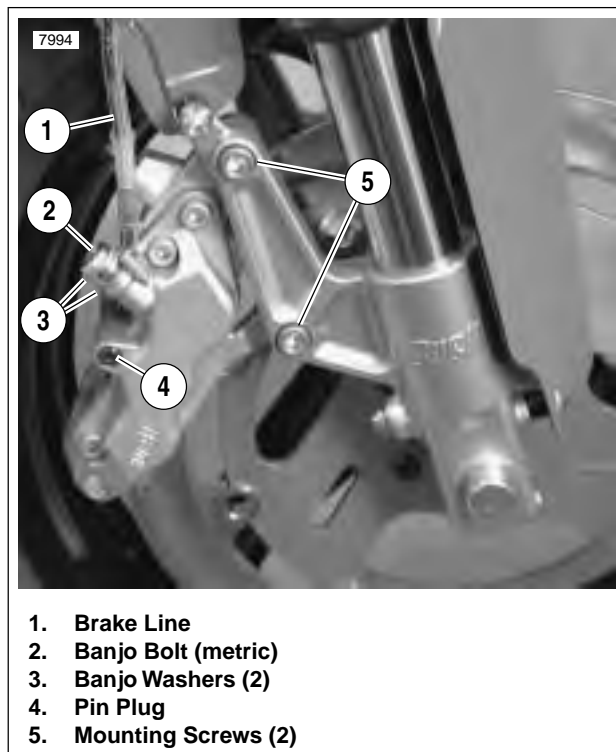
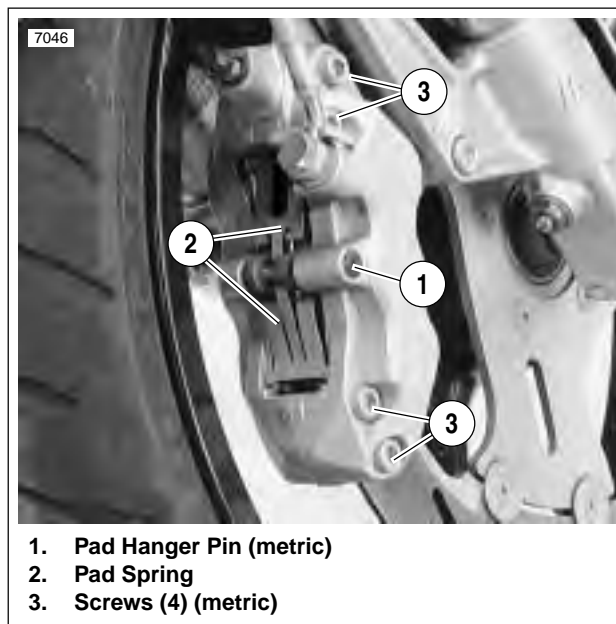

Figure 2-29. Front Brake Caliper Mounts
Figure 2-30. Pad Spring (Typical)
2. See Figure 2-29. Remove banjo bolt (2) (metric) and two banjo washers (3) to disconnect brake line (1) from caliper. Discard banjo washers.
- a. Remove pin plug (4).
- b. See Figure 2-30. Remove pad hanger pin (1) (metric).
- c. Remove pad spring (2).
4. See Figure 2-29. Detach caliper from mounts.
- a. Remove both mounting screws (5) while supporting caliper above brake rotor.
1. See Figure 2-30. Remove four screws (3) (metric) to separate caliper halves.
2. See Figure 2-29. Apply **LOCTITE THREADLOCKER 272** (red) to both caliper mounting screws (5). Install and tighten screws to 22-25 ft-lbs (30-34 Nm).
- b. See Figure 2-30. Install pad spring (2) with opening at top as shown.
- c. Install pad hanger pin (1) (metric). Tighten to 11-14.5 ft-lbs (15-20 Nm).
- d. See Figure 2-29. Install pin plug (4). Tighten to 1.5-2.1 ft-lbs (2-3 Nm).